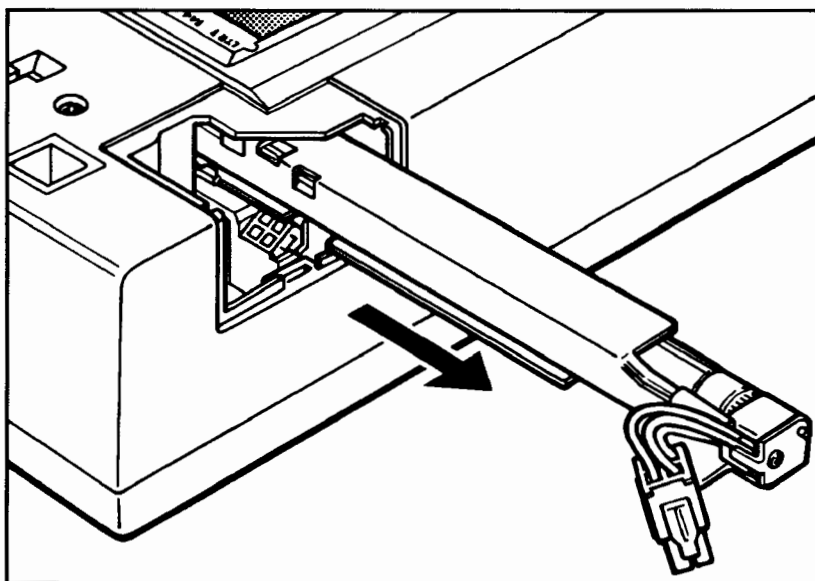

Figure 19. Removing the Lamp Holder
10. Gently remove the lamp holder by sliding it out of the scanner. See figure 19.